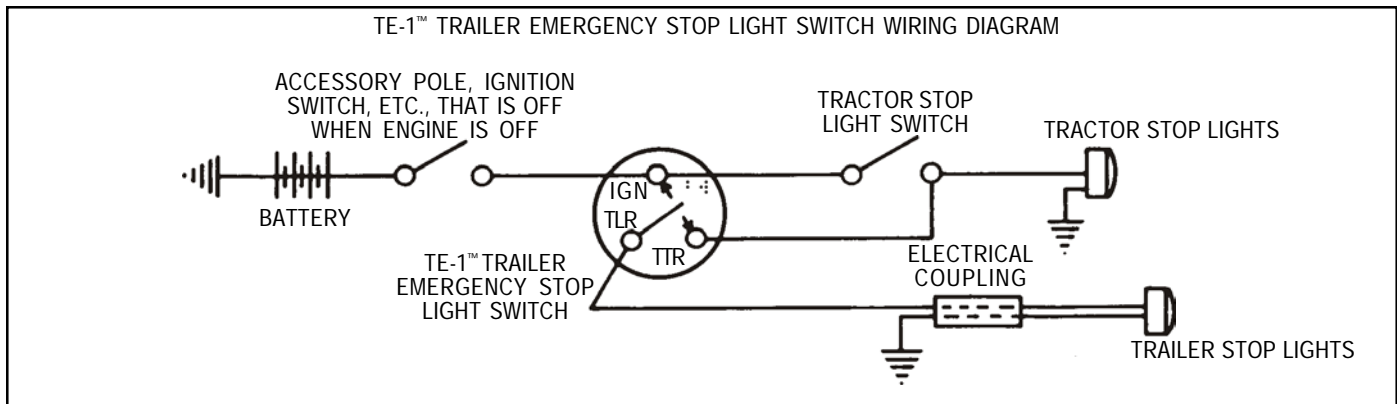

FIGURE 4
- B. Wire as per wiring diagram (Figure 4).